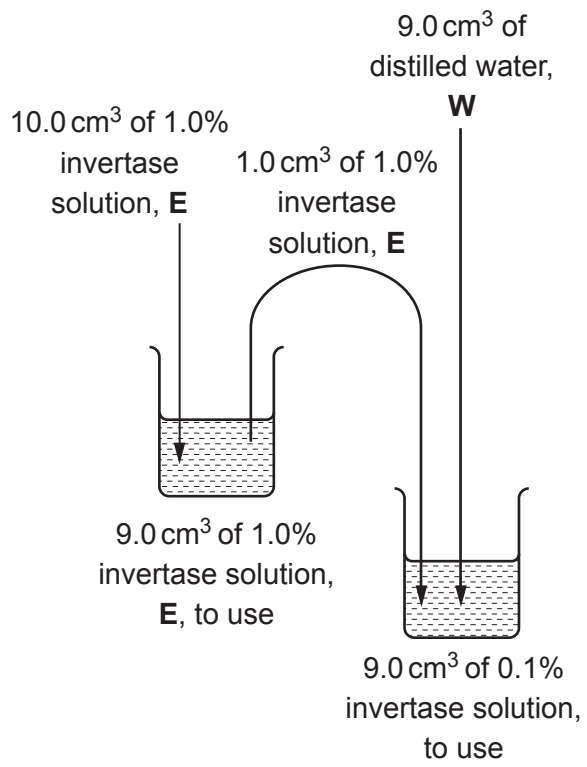

Fig. 1.2
Fig. 1.2 shows how to prepare the 1.0% and 0.1% concentrations of invertase solution.
- (ii) Complete Fig. 1.2 by drawing as many extra beakers as you need for your serial dilution of invertase solution.
1. Prepare the concentrations of invertase solution as you decided in **(a)(ii)** and shown in Fig. 1.2. Use a glass rod to mix the invertase solutions and water.